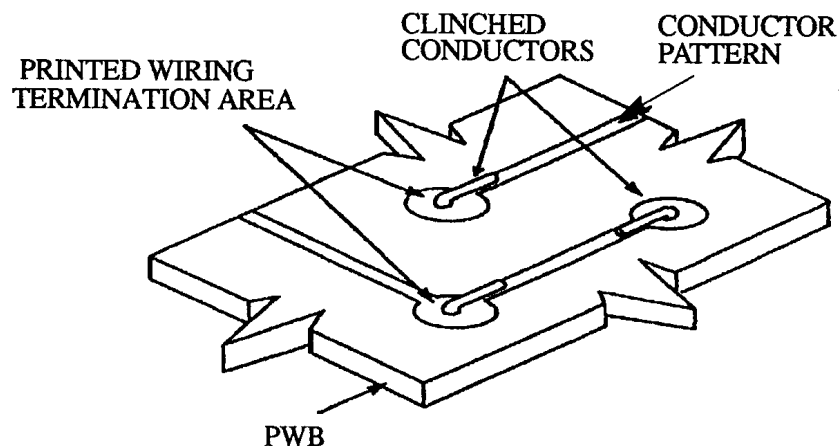
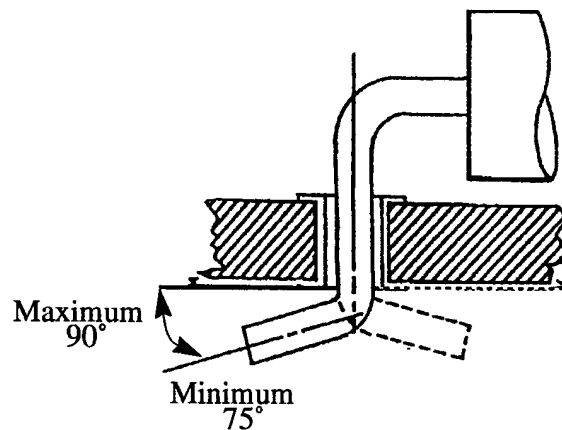

Figure 8-16. Clinched Termination
Figure 8-17. Lead Bend
2. Clinched Lead Terminations. The length of the clinched portion of conductors and part leads shall be at least $\frac{1}{2}$ the largest dimension of the solder pad or 0.78mm (0.031 inch), whichever is greater. Lead overhang shall not violate minimum electrical spacing requirements. The lead shall be bent in the direction of the longest dimension of the solder pad. If the pad dimensions are not sufficient, the lead shall be bent in the direction of the printed wire path (Figure 8-16). There shall be sufficient solder pad area extending beyond the sides of the lead to accommodate solder filleting. Fully clinched leads are defined as leads bent between 75° and 90° from a vertical line perpendicular to the PWB (Figure 8-17). Nonbendable leads shall not be clinched.